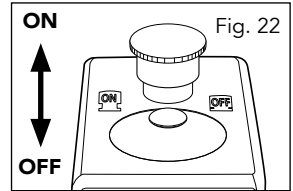

Fig. 22
2. To switch ON the compressor, pull up the switch (8) (Fig. 22).
3. To switch OFF the compressor, press the switch (8) down (Fig. 22).